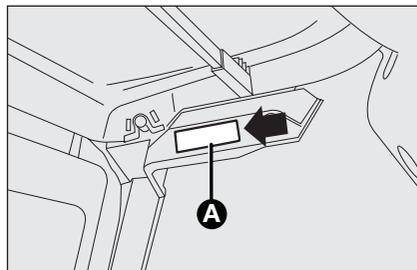

fig. 28
- using the screwdriver provided, extract the roof light **A**-fig. 28 working in the point shown.